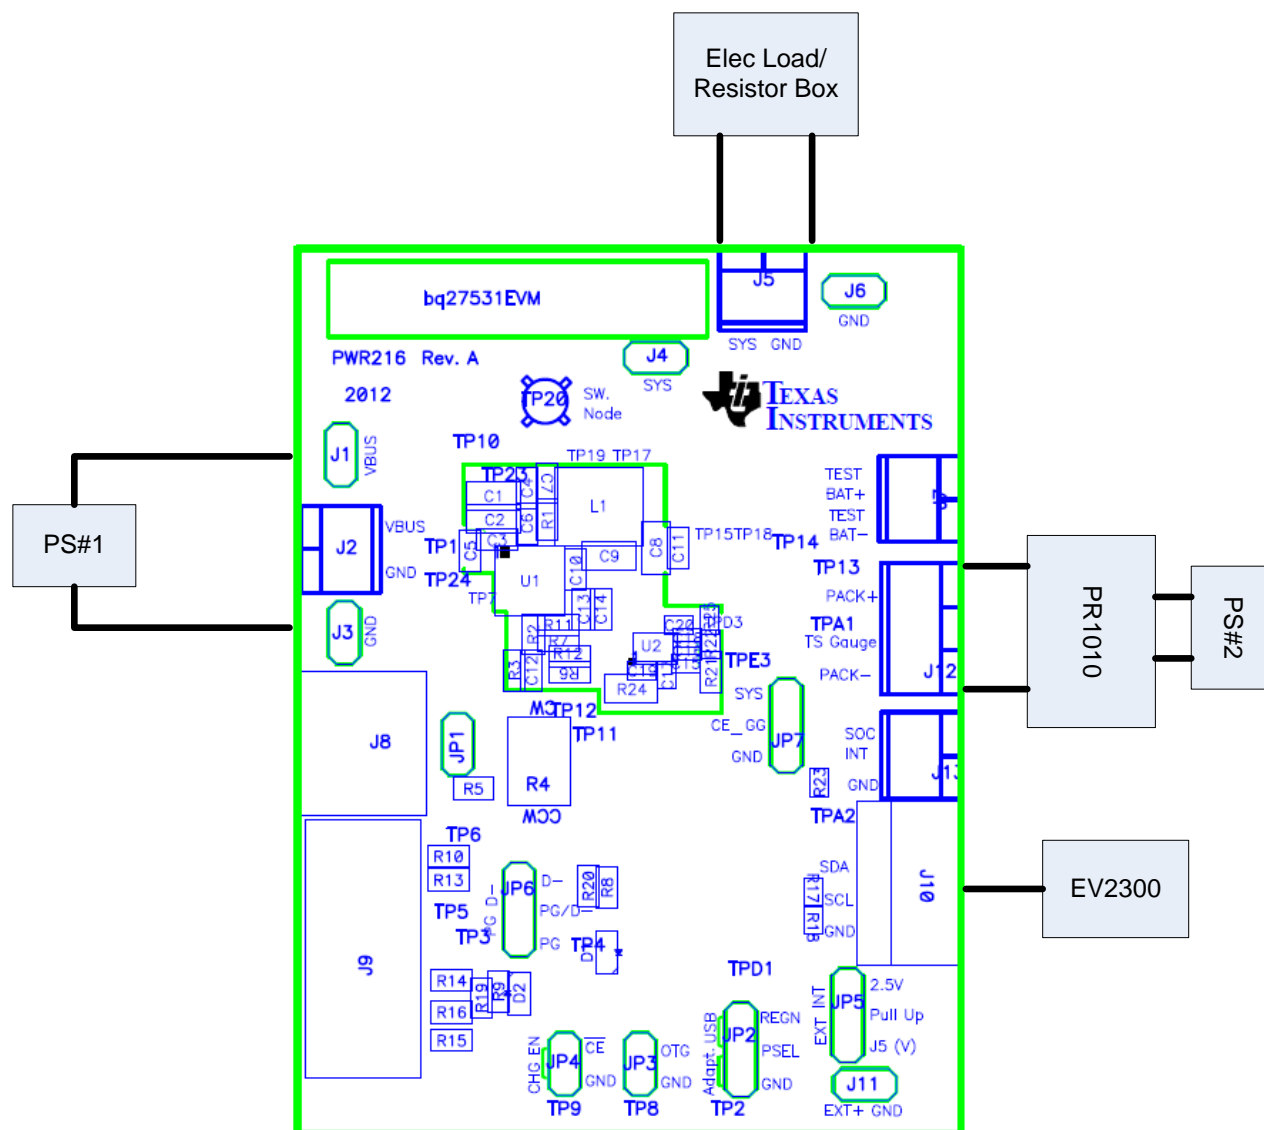

Figure 8. Test Setup for bq27531EVM (PWR216)
3. If BAT_Load as shown in Figure 8 is used, connect Power Supply #2 (PS #2) set to approximately 3.6 V to the input side (PS #2+/-) of BAT_Load, then turn off PS #2.
8. After the preceding steps have been performed, the test setup for PWR216 is configured as is shown in Figure 8